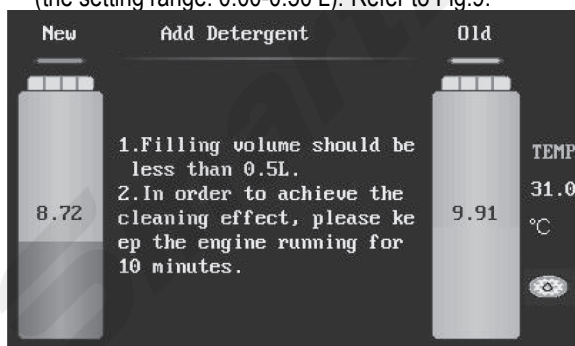

Fig.9
- 1) Select the function of "Add ATF detergent" in main menu, and set the amount of the detergent to be filled (the setting range: 0.00-0.50 L). Refer to Fig.9.